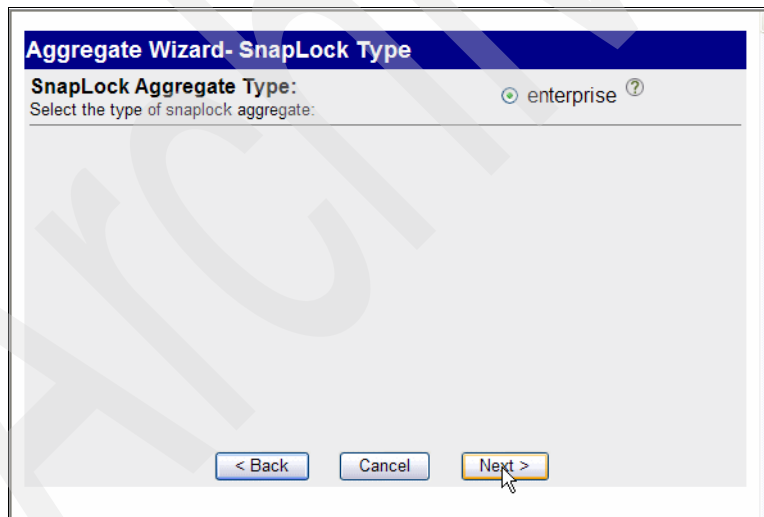

Figure 9-34 SnapLock Type
3. Choose the SnapLock type you want to use to use. In our case, we had only Snaplock Enterprise license installed, as shown in Figure 9-34.